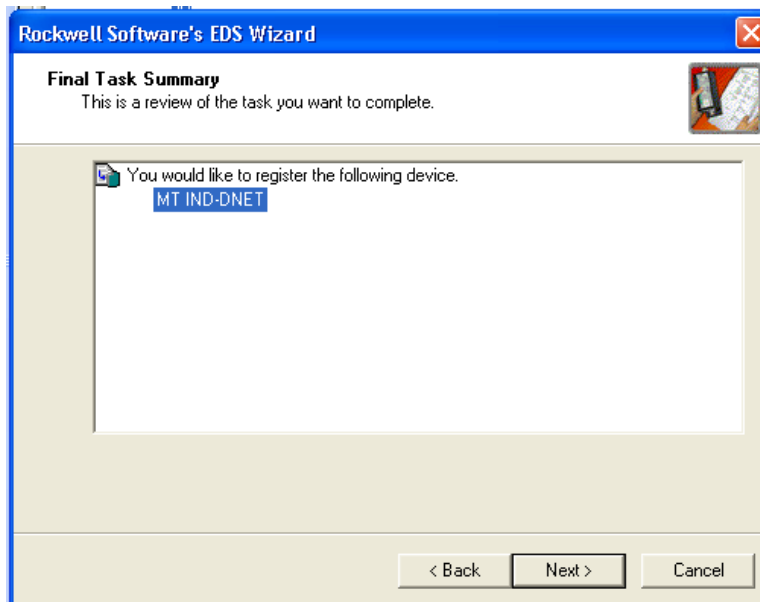

Figure 3-10: Final Task Summary Screen
10. The Final Task Summary screen (Figure 3-10) will appear. Click **Next**.